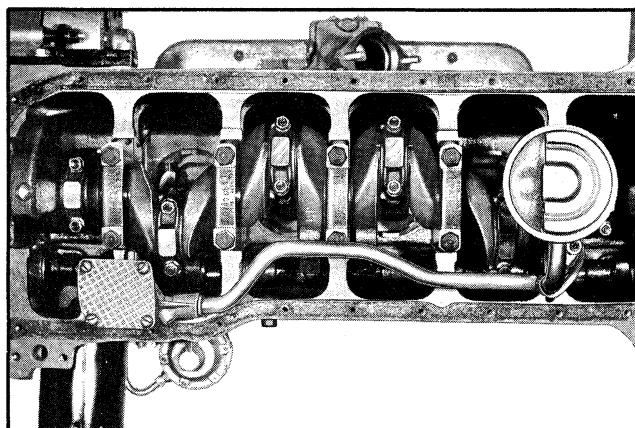

Fig. 6-53 Oil Pump Installed
2. Remove two flange mounting bolts and nut from elongated number 6 main bearing cap bolt and remove pump and screen as an assembly (Fig. 6-53).